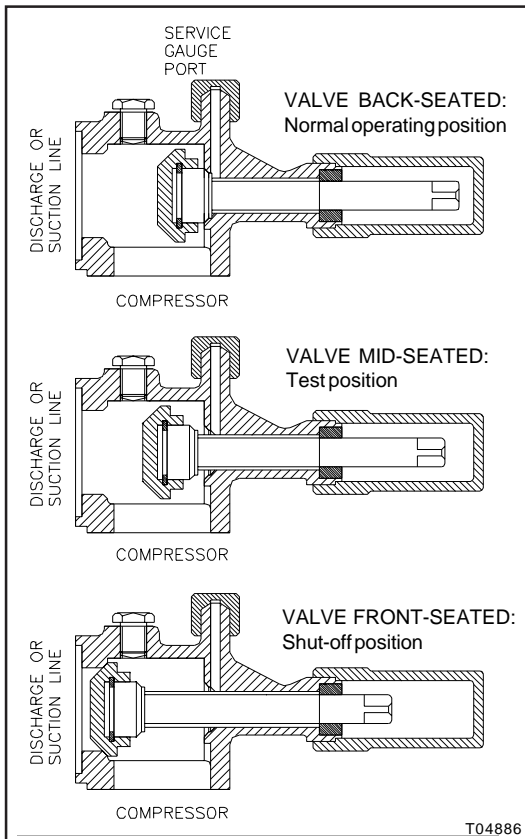

Figure 7: Service valve positions
5. If the defective compressor is to be returned for overhaul or repair, install the bypass piston plug (5), spring (4), seat ring (6) and flange cover (2) onto the cylinder heads.
**SERVICE VALVES - Figure 7**